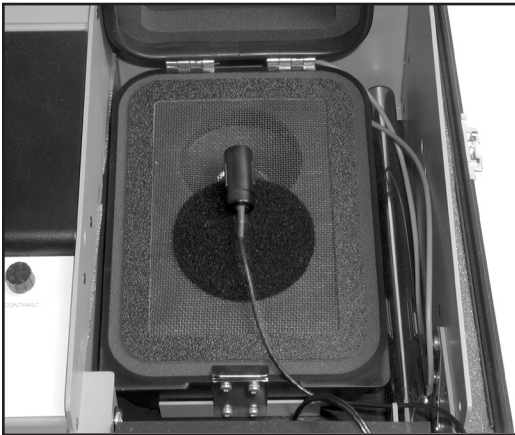

Figure 3.2.1—Leveling without the reference microphone.
3. Place the measurement microphone at the center of the speaker cone in the sound chamber. See Figure 3.2.1.